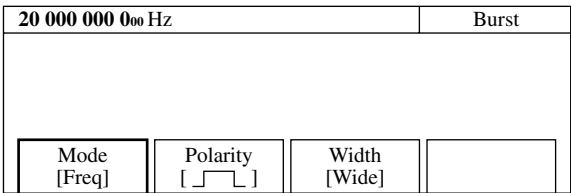
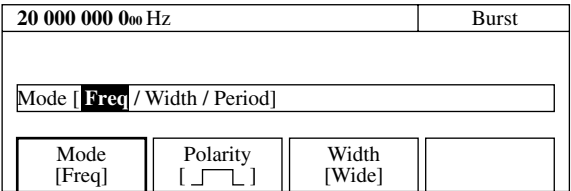

Fig. 4-18 Burst Mode Screen
Fig. 4-19 Mode Selection Screen
Pressing the [Burst] key displays the screen where you can set parameters (see Fig. 4-18).
- (1) Menu F1 : Sets carrier frequency measurement, burst width measurement, or burst frequency measurement. Selecting menu F1 displays the mode selection screen shown in Fig. 4-19 below. Use the cursor in this screen to select either Freq, Width, or Period, and then Press the [Enter] key to enter your selection and return to the burst mode screen shown in Fig. 4-18. At that point, you will see the parameter you set displayed within the square brackets [] of the menu F1.